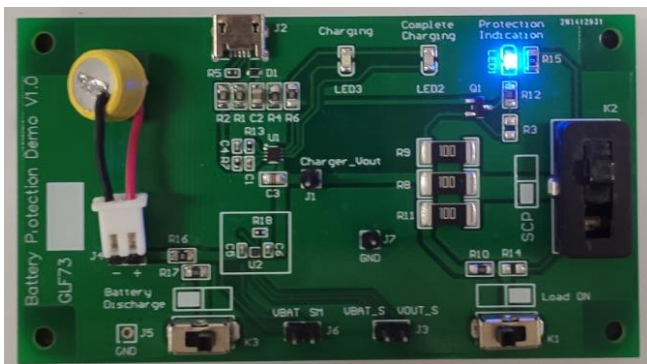

Fig 7. Shipping mode
1. Unplug the USB cable and stop charging. As shown in Fig 7, we can see that both LED1 (Red) and LED2 (Green) are off, and LED3 (Blue) is on. When LED3 (Blue) is on, it means that GLF73915 is on, the circuit is working normally, and no abnormality occurs.
1. Unplug the USB cable and stop charging. As shown in *Fig 7*, we can see that both LED1 (Red) and LED2 (Green) are off, and LED3 (Blue) is on. When LED3 (Blue) is on, it means that GLF73915 / GLF73910 is on, the circuit is working normally, and no abnormality occurs.
3. We unplug the battery and restore the polarity connection of the battery to the normal state. As shown in *Fig 7*, reconnect the USB cable to charge, and then remove the USB cable. GLF73915 / GLF73910 is on, LED3(Blue) is on.